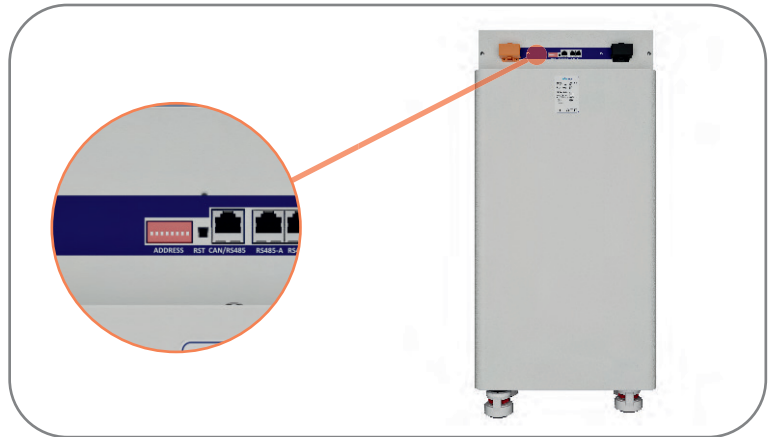

Figure 7.8
**STEP 8:** Before connecting the cables, refer to page 9 and configure the addressing settings for each battery according to the number of batteries to be used. (Figure 7.8)